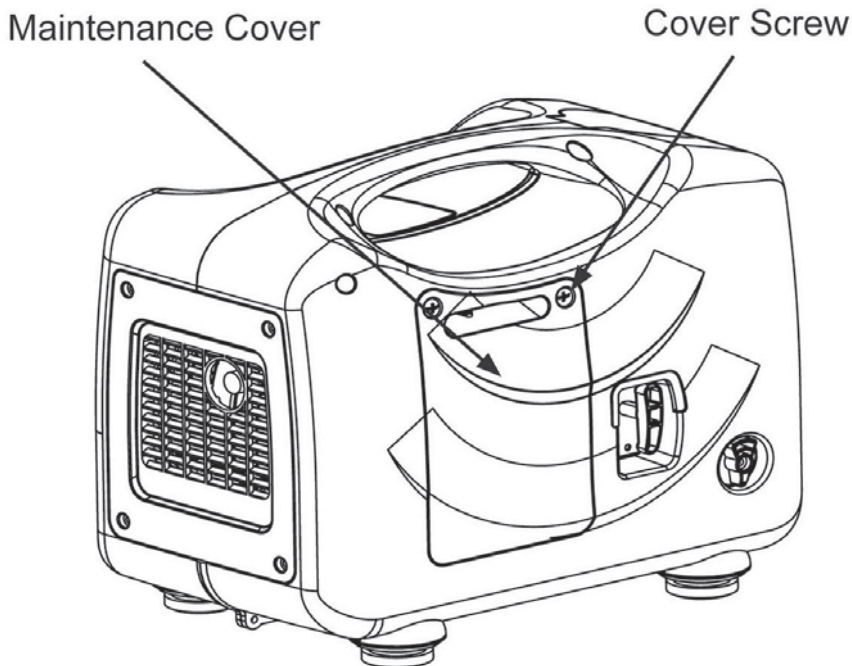
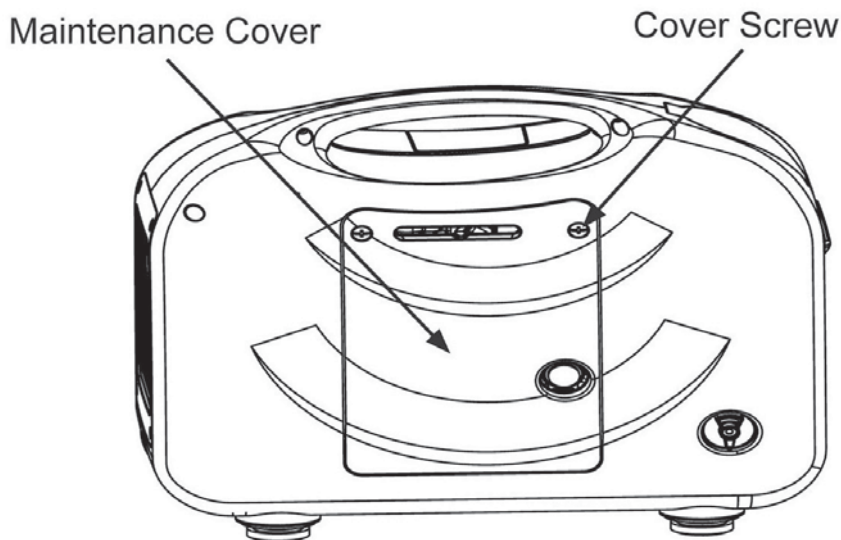

Fig. 3.0
Fig. 3.1
1. Loosen the cover screws and remove the maintenance cover (Refer to Fig. 3.0 for HY1000Si and Fig. 3.1 for HY2000Si HY3000Si)